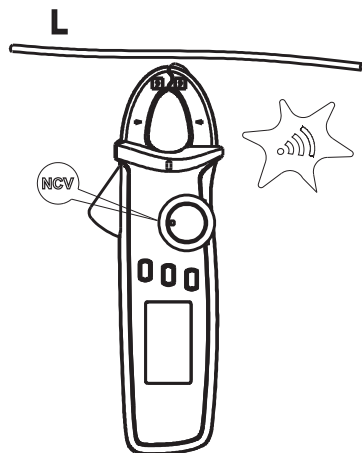

Figure 7
4. NCV noncontact electric field measurement (Figure 7)